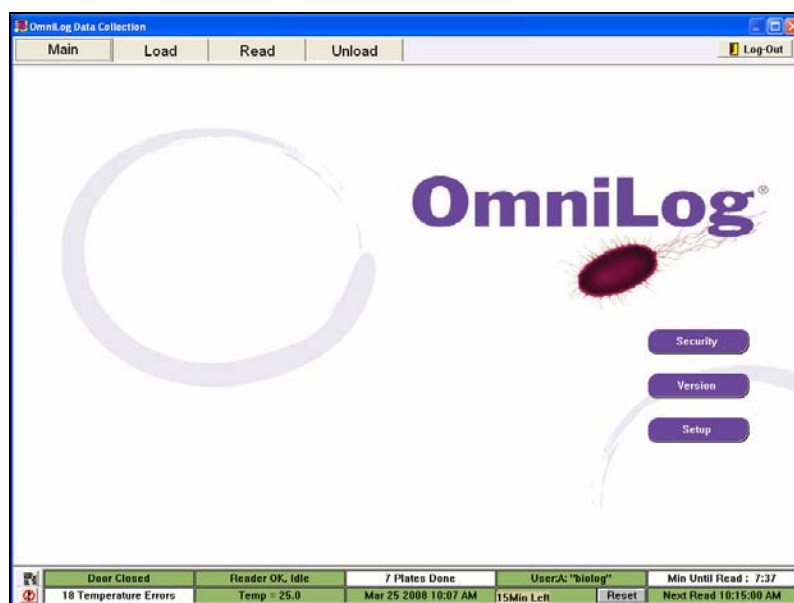

Figure 13 Main Window
2. The OmniLog Data Collection will start-up (Figure 13: Main window).